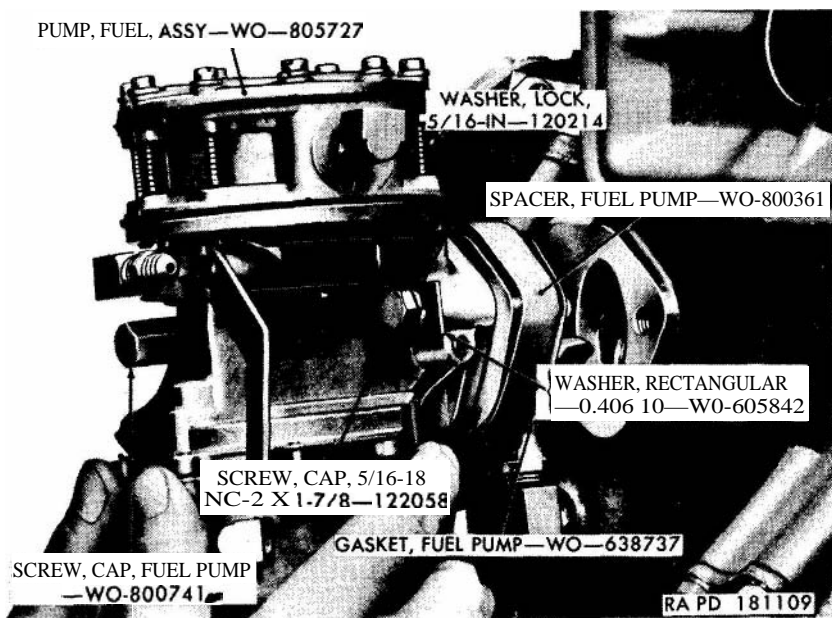

Figure 98. Installing fuel pump assembly.
b. Coat both sides of the two fuel pump gaskets (fig. 98) with plastic type gasket cement. Assemble a $\frac{1}{16}$ -inch lockwasher and the 0.406 ID rectangular washer onto the $\frac{5}{16}$ -18NC-2 x 1 $\frac{7}{8}$ s cap screw. Assemble identical parts on the fuel pump cap screw and coat the threads of the cap screws with plastic type gasket cement. Insert the cap screws through the bolting flange of the pump as shown in figure 98. Assemble a fuel pump gasket, the fuel pump spacer and the second fuel pump gasket onto the cap screws as shown in figure 98, and install the fuel pump on the engine.